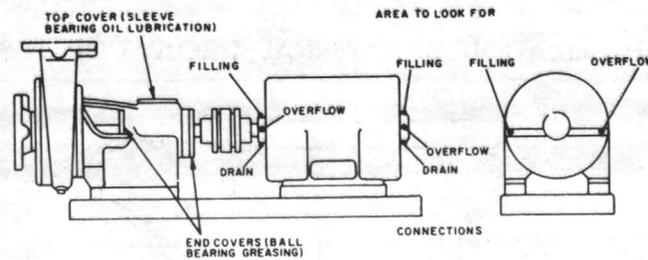

Fig. 5—Lubrication Points
**Sleeve Bearing** pumps are filled with oil at the factory but some oil might be lost during shipment. As a matter of precaution, check oil level before starting up pump. Proper level is at the center of the sight glass. If oil level is too low, remove top cover ( Fig. 5 ) and refill.
To grease bearings open side covers ( Fig. 5 ), slide